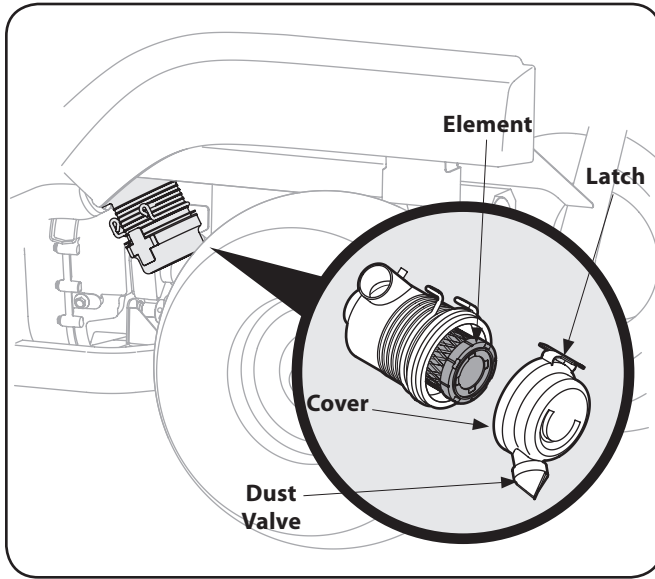

Figure 6-1
1. Pull up on latch and turn counter-clockwise to release air cleaner cover. See Fig. 6-1.
**IMPORTANT:** When reattaching cover, make certain that dust valve is pointing downward. See Fig. 6-1 inset.